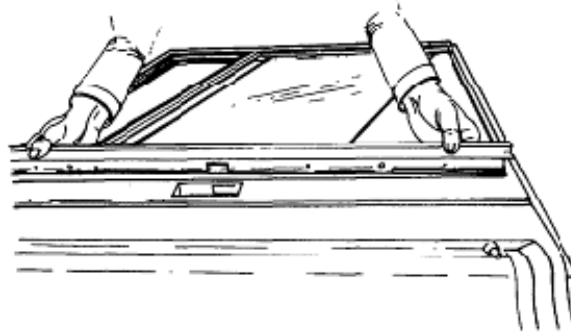

Figure 193 Removable Rail Installation
- x. Fit the glasses complete with the removable rail into the frame (Figure 193). Ensure that the inner and outer glass are located in the correct channels.